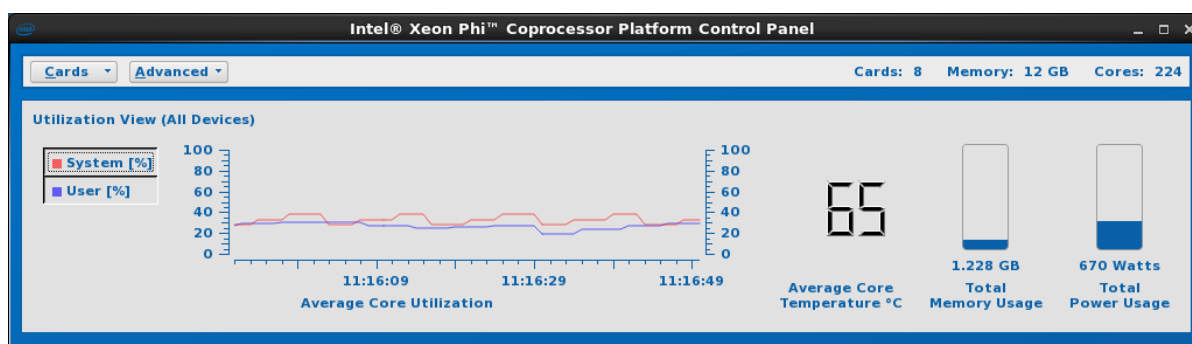

Figure 20: Average Utilization View
Shown in Figure 20 below, the **Average Utilization View** is the default view presented by the Control Panel application on startup and is the primary Control Panel view for graphical visualization of Intel® Xeon Phi™ coprocessor overall system status. The performance parameters monitored by the four (4) GUI components are listed below. Each component is discussed in the following sections, including the parameters monitored.